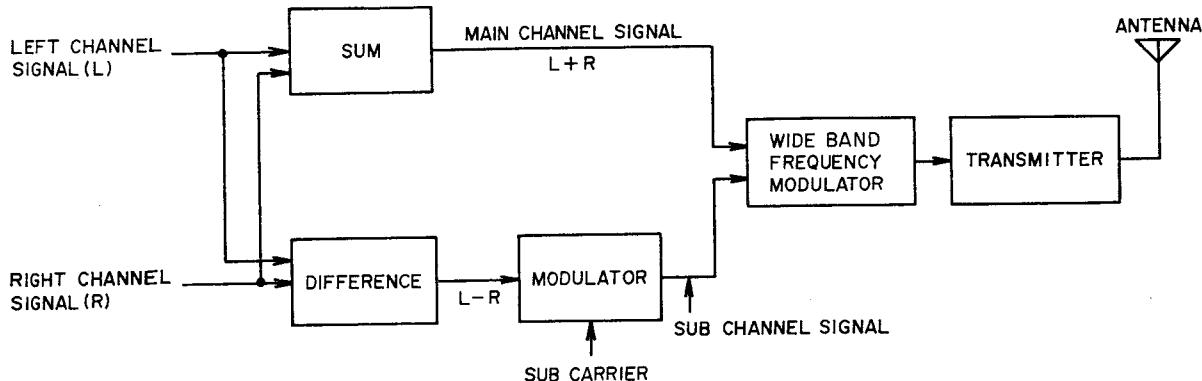

Fig. 14 FM Broadcasting System Diagram
As shown in Fig. 14 for FM broadcasts, the sum signal ($L+R$) consists of left signal (L) and right signal (R) and the audio frequency band of this signal in its original form is frequency modulated.